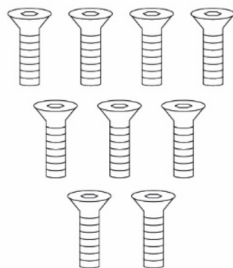

Figure 5 - Allen screws
6. Tighten the supplied Allen screws (**See Figure 5 - Allen screws**) (3 screws on 3 sides) and tighten them with the supplied Allen key (**See Figure 7 - Allen key**).